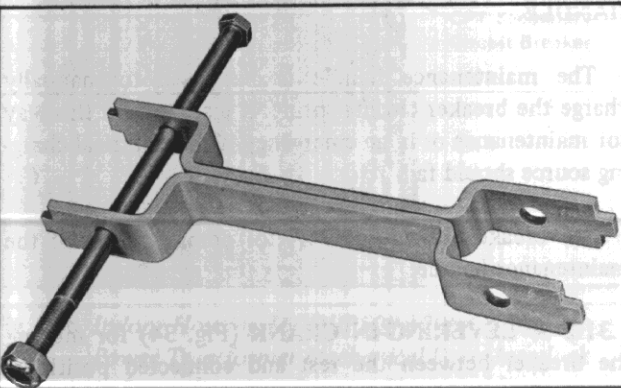

Fig. 35 Spanner Nut Wrench (376449)
1.31.3 A SPANNER NUT WRENCH (Fig. 35) for removing, replacing, or checking tightness of the main contact in its porcelain support (or bottle). **WARNING: DO NOT USE WHEN MAIN CONTACTS ARE ENERGIZED. TO DO SO COULD RESULT IN BODILY INJURY OR ELECTROCUTION. WHEN ENERGIZED, MAIN CONTACTS CARRY LETHAL HIGH VOLTAGES.**